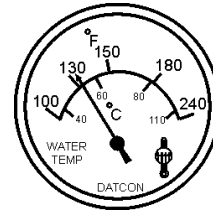

Figure 51. Coolant Temperature Gauge
13. The water temperature gauge (Figure 51) will indicate the coolant temperature. Under normal operating conditions the coolant temperature is between 165 and 215 degrees Fahrenheit.